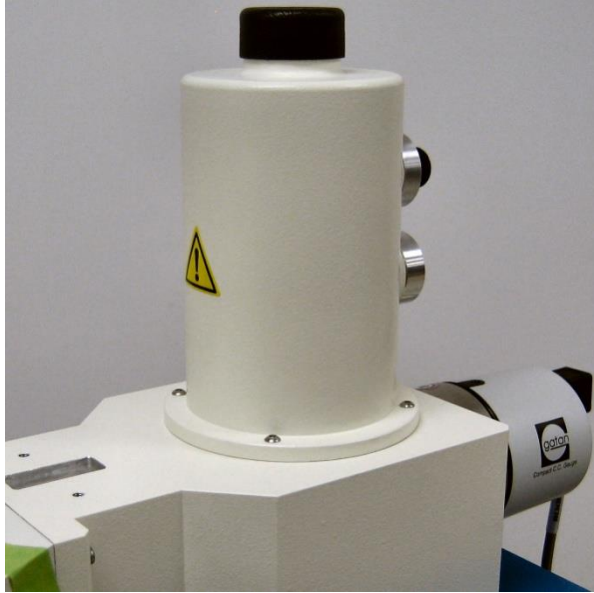

Figure 8-12 Dewar Assembly installed in manifold
- b) Remove the 4 M3 screws that secure the dewar to the manifold. See Figure 8-12.
- b) Install the 4 M3 screws that secure the dewar to the manifold. See Figure 8-12.